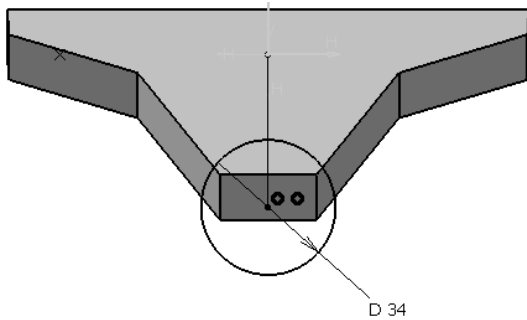

Figure 6-80 Sketch for the second feature
- Create the second feature of the model by extruding a sketch using the **Drafted Fillet Pad** tool, refer to Figures 6-80 and 6-81.
4. Use the newly created plane to invoke the **Sketcher** workbench and draw the sketch of the second feature, as shown in Figure 6-80.